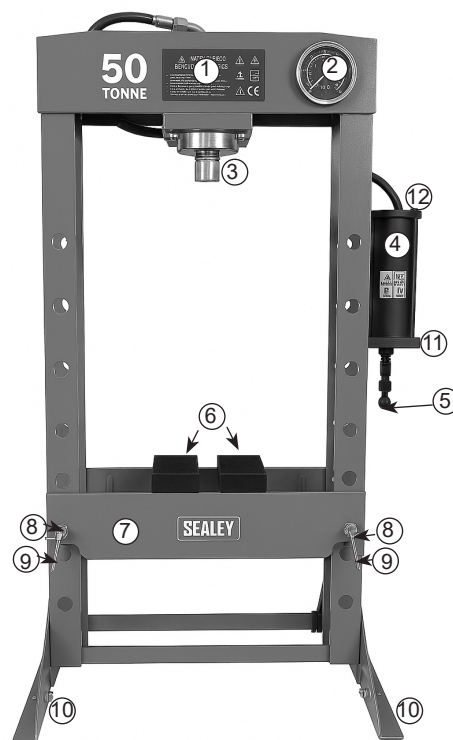

fig.1
- 5.2. Numbers above refer to attached parts list and fig.1.